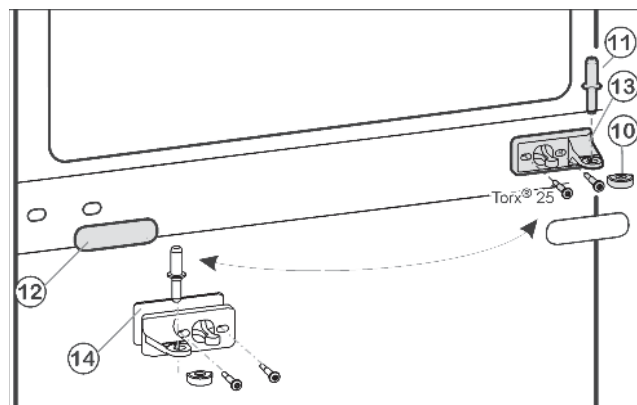
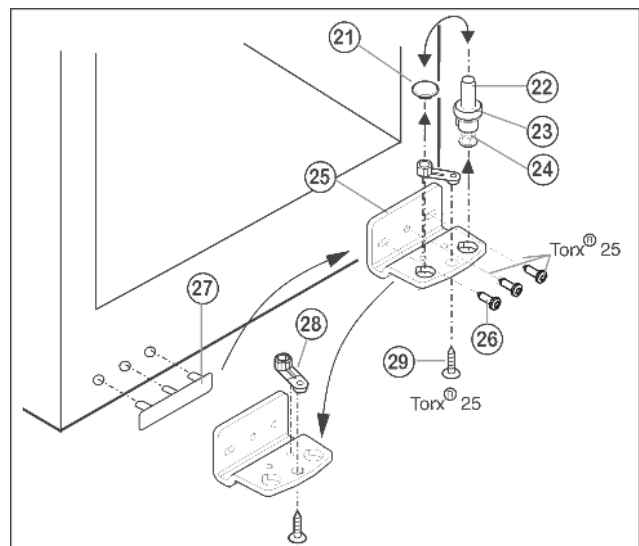

Fig. 6
Fig. 7
- ▶ Remove the center bearing pin Fig. 6 (11) from the bearing bracket and the lower door.
- ▶ Remove the plastic cap Fig. 6 (10).
- ▶ Unscrew the middle bearing bracket Fig. 6 (13) (2 Torx® 25 screws).
- ▶ Carefully remove the cover trim Fig. 6 (12).
- ▶ Screw the middle bearing bracket Fig. 6 (13) with the supporting plate Fig. 6 (14) turned 180° onto the new hinge side (4 Nm).
- ▶ Turn the cover trim Fig. 6 (12) 180° and snap it back into place on the new handle side.
- ▶ Unscrew the bearing pin *Fig. 7 (22)*, including the washer *Fig. 7 (23)* and adjustable foot *Fig. 7 (24)*, all the way and pull it out.
- ▶ Remove the plug *Fig. 7 (21)*.
- ▶ Unscrew the *Fig. 7 (25)* bearing bracket *Fig. 7 (26)*.
- ▶ Unscrew *Fig. 7 (28)* the bearing part *Fig. 7 (29)* and swap it over to the opposite positioning hole; then screw it in place.
- ▶ Carefully lift off the cover on the handle side *Fig. 7 (27)* and move it to the opposite side.
- ▶ Using a cordless screwdriver if necessary, secure the bearing bracket *Fig. 7 (25)* **tightly (to 4 Nm)** on the new hinge side.
- ▶ Insert the plug *Fig. 7 (21)* into the other hole.
- ▶ Insert the bearing pin *Fig. 7 (22)*, including the washer and adjustable foot, all the way. Make sure the detent lobe is pointing toward the back.
- ▶ Position the lower door from above onto the bearing pins below *Fig. 7 (22)*.
- ▶ Place the plastic cap *Fig. 6 (10)* back onto the center bearing bracket *Fig. 6 (13)*.
- ▶ Insert the center bearing pin *Fig. 6 (11)* on the new hinge side through the center bearing bracket *Fig. 6 (13)* into the lower door.
- ▶ Place the upper door onto the center bearing pin *Fig. 6 (11)*.
- ▶ Align the doors flush with the appliance housing, using the two oblong holes in the lower bearing bracket *Fig. 7 (25)* and in the center bearing bracket *Fig. 6 (13)* as a guide, if needed. To do so, unscrew the center screw on the lower bearing bracket *Fig. 7 (25)*.